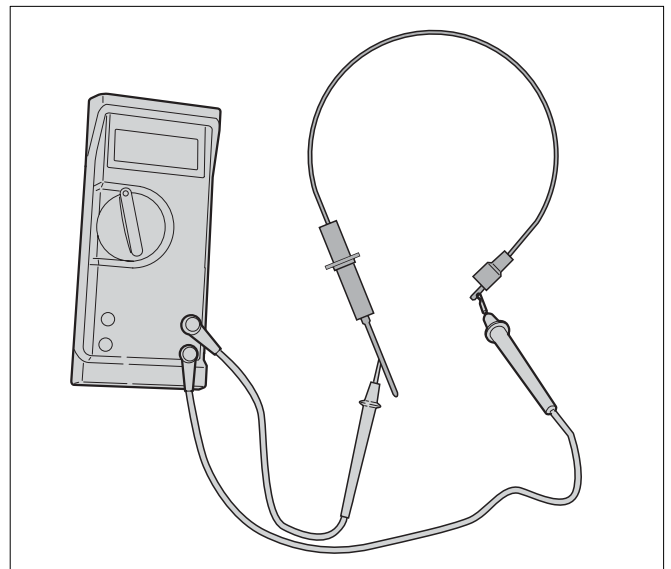

Fig. 69 Testing the resistance of the ionization electrode
- Test the resistance of the ionization electrode (see fig. 69). The resistance must be 0 Ω.